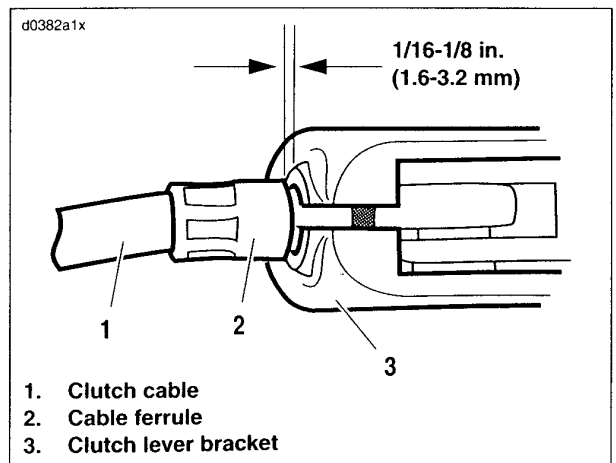

Figure 1-30. Clutch Hand Lever
- b. See Figure 1-30. Pull clutch cable ferrule (2) away from clutch lever bracket (3) to check free play. Turn cable adjuster as necessary to obtain 1/16-1/8 in. (1.6-3.2 mm) free play between end of cable ferrule and clutch lever bracket.